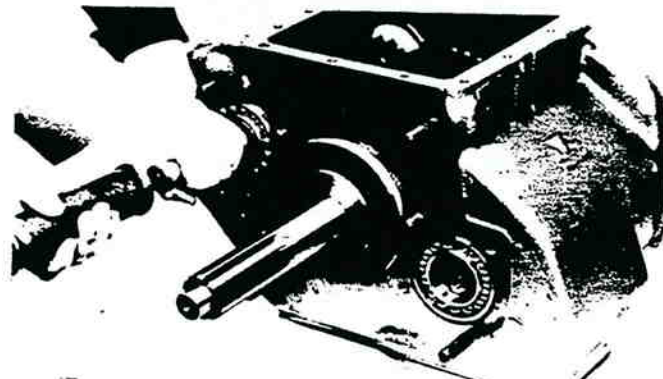

Figure 13-43. Driving Countershaft Toward Rear.
4. Use a soft bar and maul to drive each countershaft to the rear approximately 1/2" (figure 13-43).